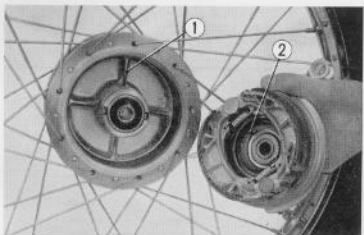

Fig. 4.85 Separate brake panel
6. Separate the front brake panel ② from the front wheel hub ①, remove the speedometer gear and disassemble the brake arm from the panel. (Fig. 4.85)